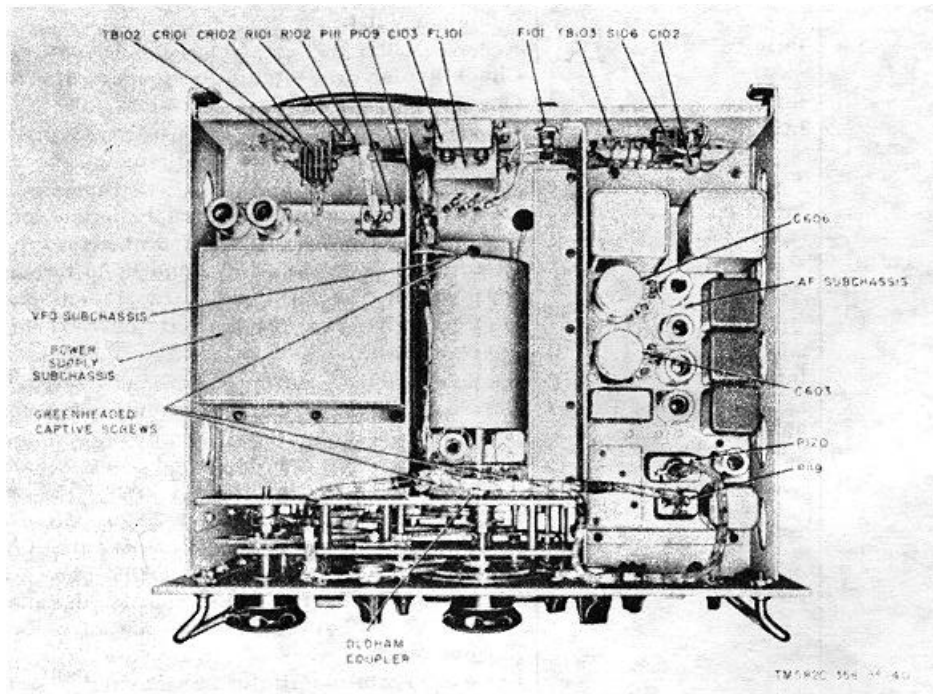

Figure 37. Radio Receiver R-390/URR, bottom view.
- (1) Short circuits in the tube heater and/or oven circuits usually blow the AC 3 AMP fuse on the rear panel on the receiver. Disconnect all power/plugs except Pill (fig. 37) from the power-supply subchassis and apply ac power to the receiver. Turn the FUNCTION switch to STAND BY. If tubes V801 and V802 in the power-supply subchassis light and fuse F101 does not blow, the trouble is in one of the other subchassis. If the fuse blows, the trouble is in the power-supply subchassis or main-frame wiring. Follow the procedure in (2) below for locating the tube filament or oven short.
- (2) Remove all tubes and the power plug from the subchassis to be tested. Check between the terminals listed in the chart below and ground,